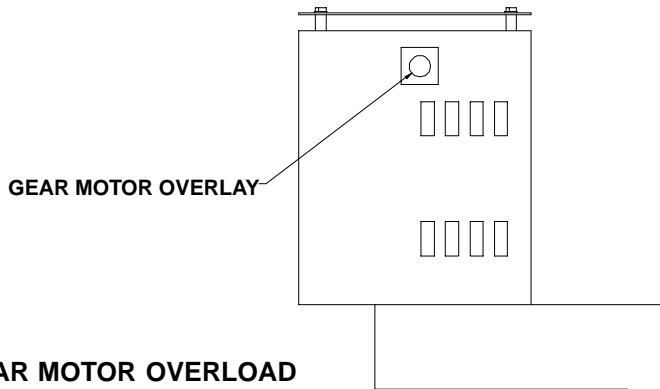

FIGURE 22. GEAR MOTOR OVERLOAD
2. Gearmotor thermal overload, manual reset type (red button on motor). See Figure 22